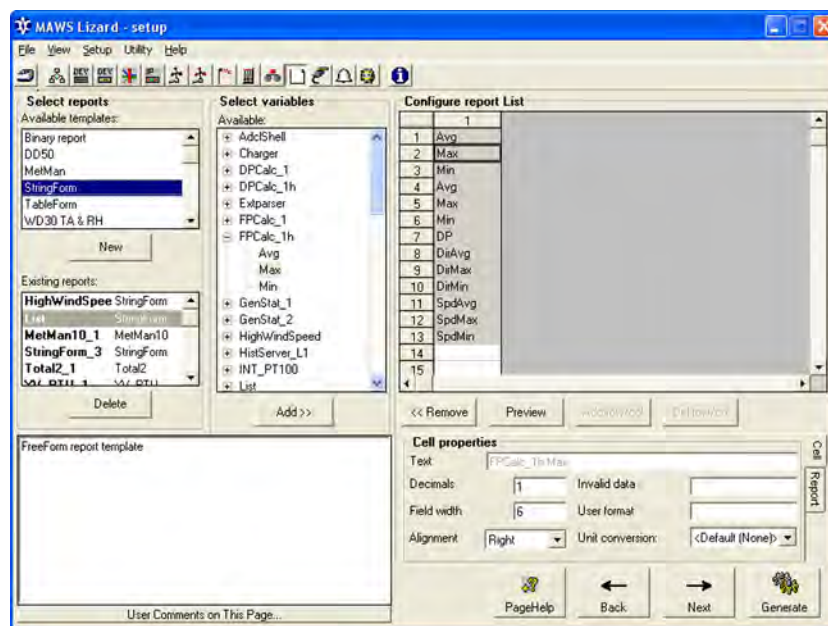

Figure 54 Reports View: Available Templates
2. In the **Select reports** frame, select the desired preformatted template from the **Available templates** list and click **New**. See Figure 54 on page 114.
4. Replace all listed tags with the actual variables by selecting the desired cell from the report and by selecting an item from the **Available** list in the **Select Variables** frame. Drag and drop the item to the cell with the mouse or click the **Add** button. See Figure 54 on page 114 for an example of the predetermined report with the actual variables. You may enter a fixed text in a tagged cell if your setup does not produce the required data. However, note the capabilities of the device to which the report is sent, for example, you cannot use slash characters "/" with a device that has 7-segment display elements.